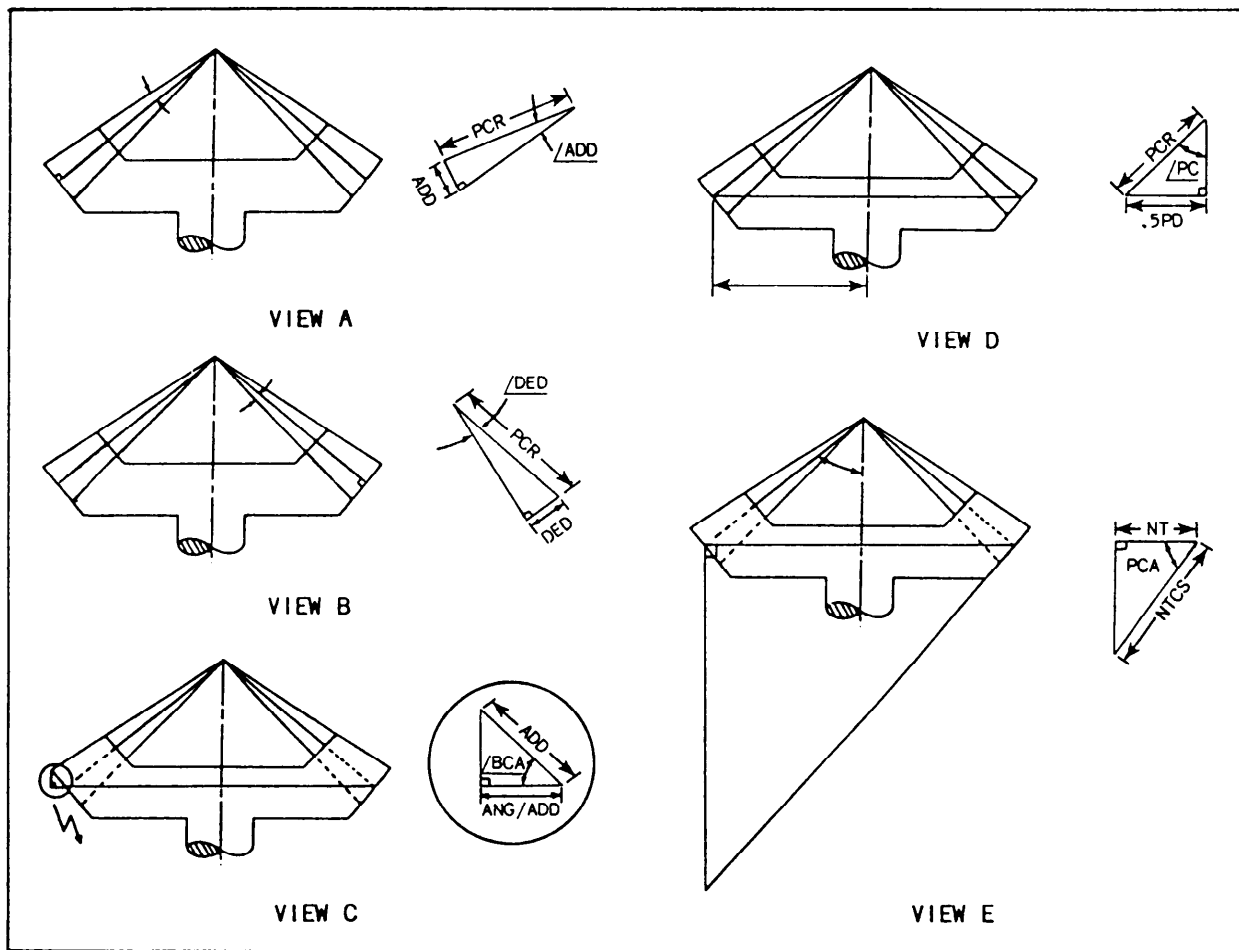

Figure 14-16.—Development of bevel gear formulas.
- In the triangle shown in figure 14-16, view A, the hypotenuse is the pitch cone radius and the side opposite is the addendum.
- In the triangle shown in figure 14-16, view B, the side opposite the dedendum angle is the dedendum and the hypotenuse is the pitch cone radius.
7. Pitch diameter (PD)—This is the diameter of the gear blank one addendum down at the large end of the gear.
8. Outside diameter (OD)
- In the triangle shown in figure 14-16, view C, the hypotenuse is the addendum and the side adjacent to the angle (BCA) is known as the angular addendum.
- In the triangle shown in figure 14-16, view D, the hypotenuse is the pitch cone radius and the side opposite the pitch cone angle ($\angle PC$) is equal to one-half the pitch diameter (0.5 PD).
- In the triangle shown in figure 14-16, view E, the NTCS is the hypotenuse and the side adjacent is the number of teeth of the gear.